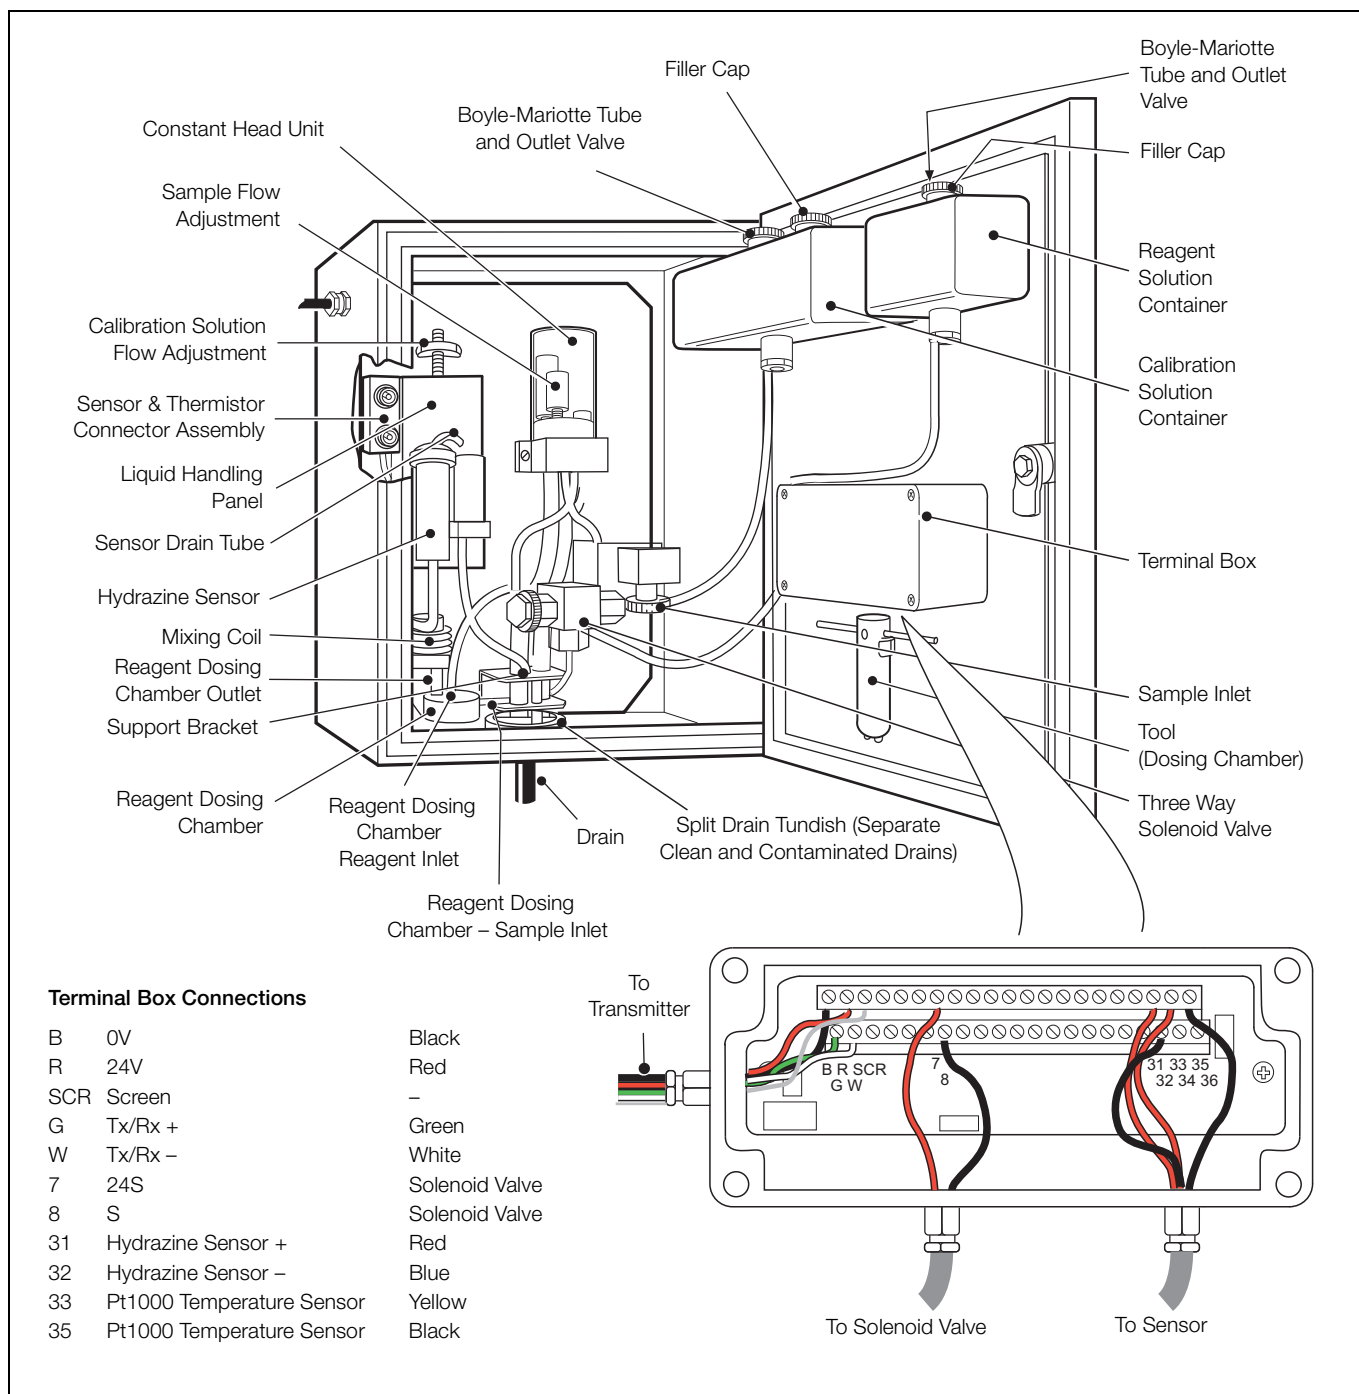

Fig. 4.6 Sensor Unit Cable Gland Entries and Electrical Connections
A 2 m (6.5 ft.) length of 4-way overall screened cable is normally supplied for interconnecting the sensor and transmitter units; longer lengths may be ordered separately. The interconnecting cable is routed to a terminal block in an electrical connection box on the inside of the case door – see Fig. 4.6. Push one end of the cable through the cable gland in the sensor unit case and then the junction box, prepare the cable end and connect it to
the terminal block as shown in Fig. 4.6. Tighten the cable glands. If the gland in the case has been transferred to the left-hand side, support the cable using the two cable ties provided.
8. Open the reagent container valve and establish flow through the new disc by clamping the sample inlet tube and applying suction from a plastic syringe to the reagent dosing chamber outlet – see Fig. 4.6, page 11.
The sensor unit is shown in Fig. 4.6, page 11. It consists of a metal case of similar construction to the transmitter case, with the pipework carrying the sample mounted on a panel bolted to the back with 4 x M6 captive bolts.